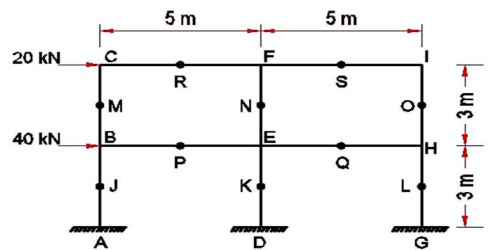

Fig. 4
- ii. Analyse the frame shown in Fig. 4 and evaluate approximately the column end moments, beam end moments and reactions by Portal Method. 7
- OR iii. Analyse the frame shown in Fig. 4 and evaluate approximately the column end moments, beam end moments and reactions by Cantilever Method. 7